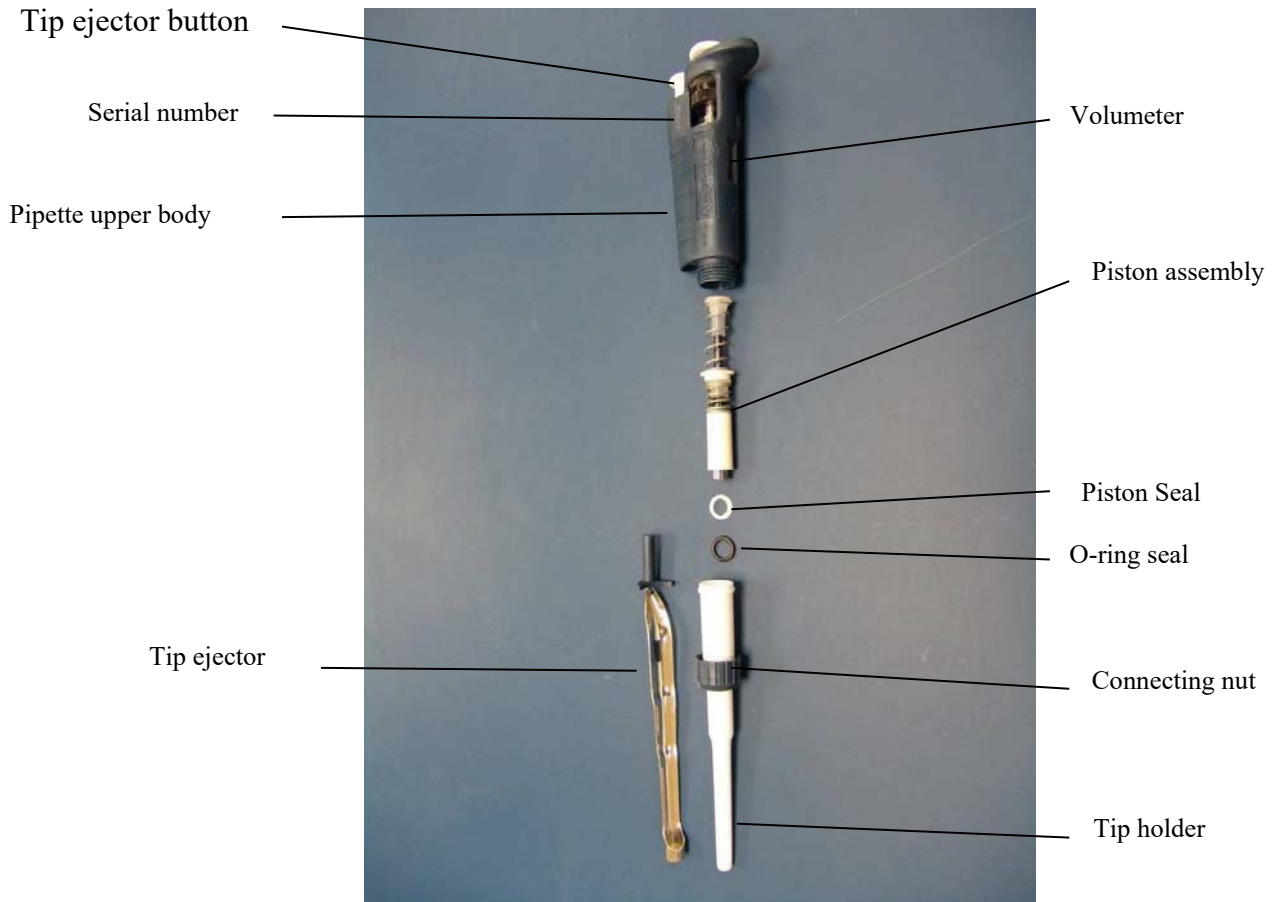

Figure 2: Pipetman® breakout
- 8.5.1. The following components: tip –ejector, tip holder, connecting nut and the metal and plastic components of the piston assembly can be removed and immersed in IPA for complete decontamination. See Figure 2 and disassemble instructions below.
### **8.8. Disassemble the Pipetman®** (See Figure 2)
- 9.2. Figure 2: Pipetman® break out